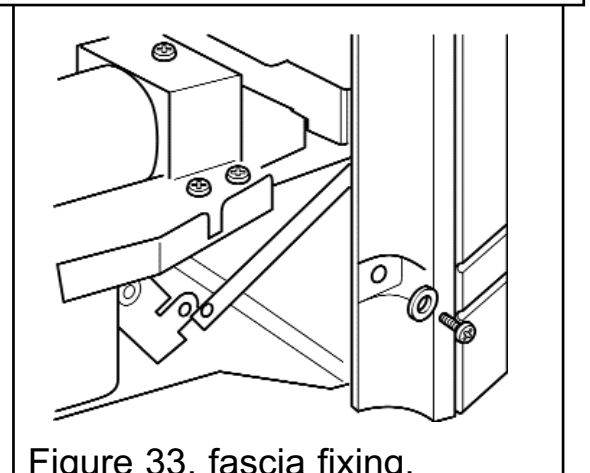

Figure 33. fascia fixing.
3. Secure the bottom of the fascia using the two machine screws and washers supplied (See figure 33).